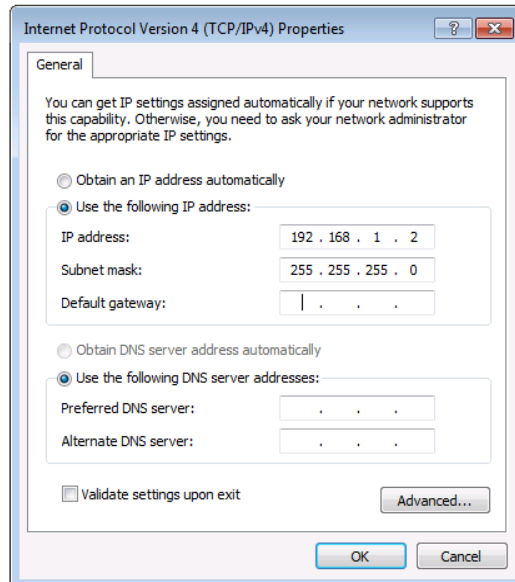

Figure 8: Internet Protocol Properties Window
- 6. Select **Use the following IP Address** for static IP addressing and fill in the details as shown in Figure 8.